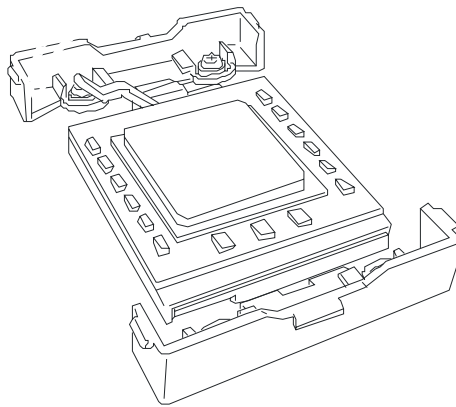

Figure 4-12. Installing a Processor
8. Gently apply pressure equally over the top surface of the processor until it seats in the socket. The processor should fit, do not force the processor into the socket. Push the socket lever down until it snaps into the locked position. See Figure 4-12.